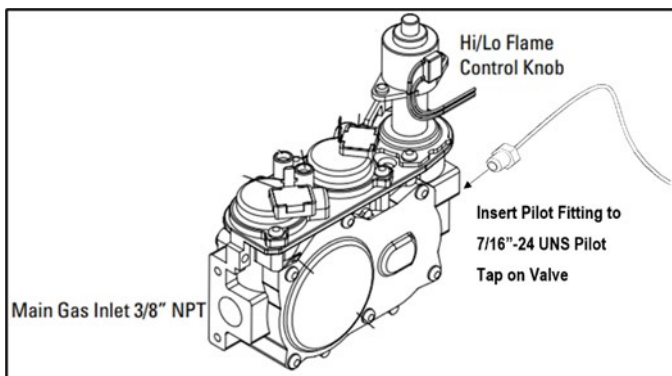

FIGURE 40
7. Connect the open end of 12" flex connector to the gas-supply. **Figure 40**